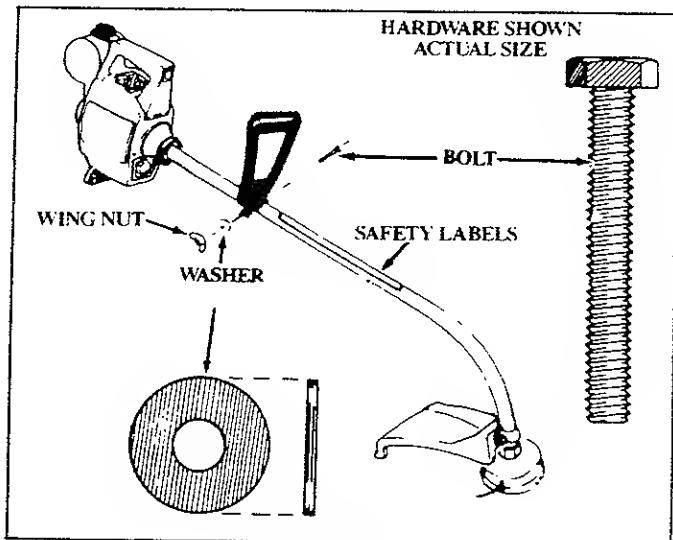

Figure 5
### 4. ASSIST HANDLE — Figure 5
- Hold the Assist Handle so it is leaning back toward the Engine and aligned between the Engine and the Safety Label. Figure 5.
- Firmly push the Assist Handle over the Drive Shaft Housing. Figure 5.
- Install the Washer and Wing Nut. Figure 5.